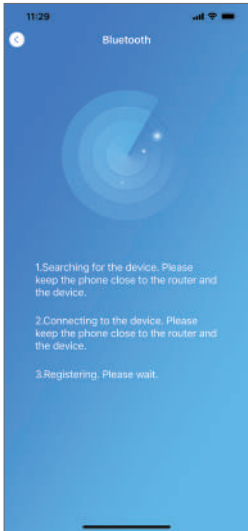

Fig.13 Searching device interface
- Turn on bluetooth and back to the APP, derectly enter the searching device interface(Fig. 13);